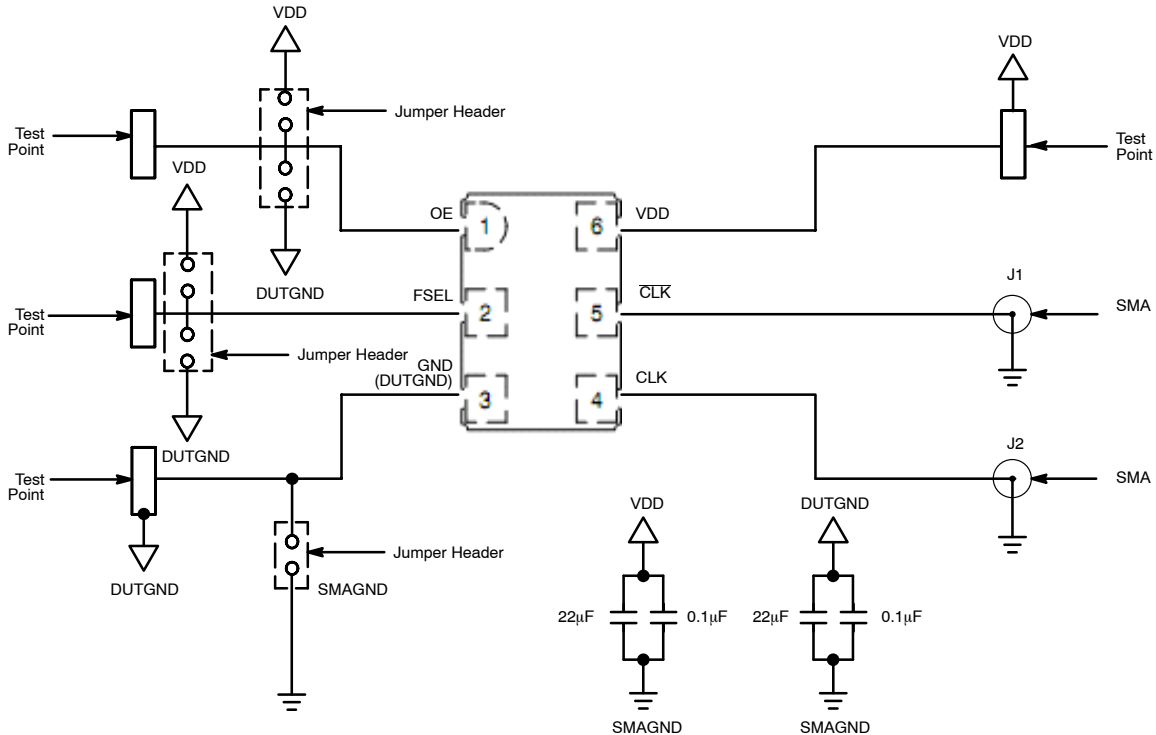

Figure 7. XOCLCC6EVB Evaluation Board Schematic
- Evaluation Board schematic (Figure 7)